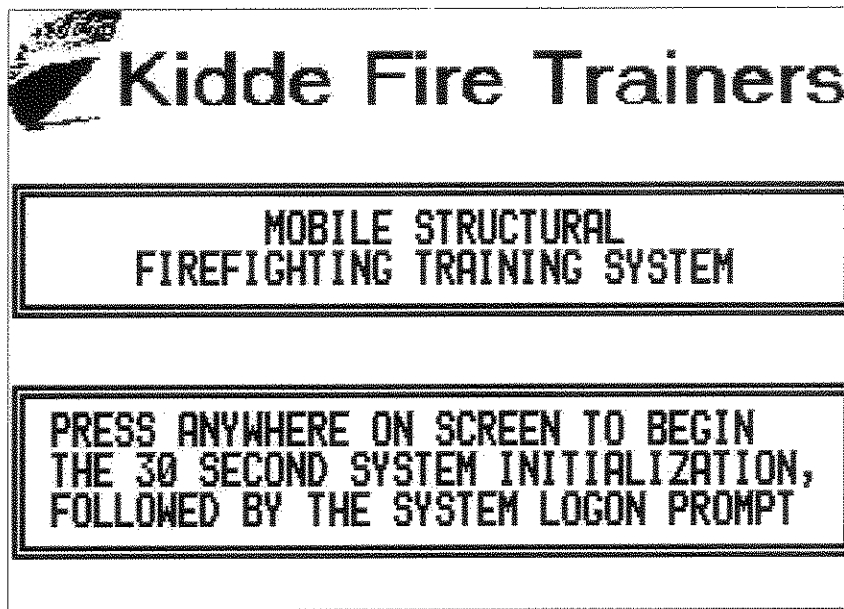

Figure 3-16 Initialization Screen
FOR COLD STARTS IT MAY BE NECESSARY TO MOMENTARILY DEPRESS THE PRIMER BUTTON WHILE STARTING THE ENGINE, AS SHOWN IN FIGURES 3-16 (A).
1. Verify touch screen illuminates and the Initialization Screen comes up (Refer to Figure 3-16).
2. Press anywhere on the Initialization screen to start the 30-second vent/exhaust fan purge cycle. Once the screen is touched the message **"INITIALIZATION STARTED: PLEASE WAIT"** will appear at the bottom of the screen (See Figure 3-16). Once the 30-second vent/exhaust fan purge cycle is complete the Pass Code screen appears.